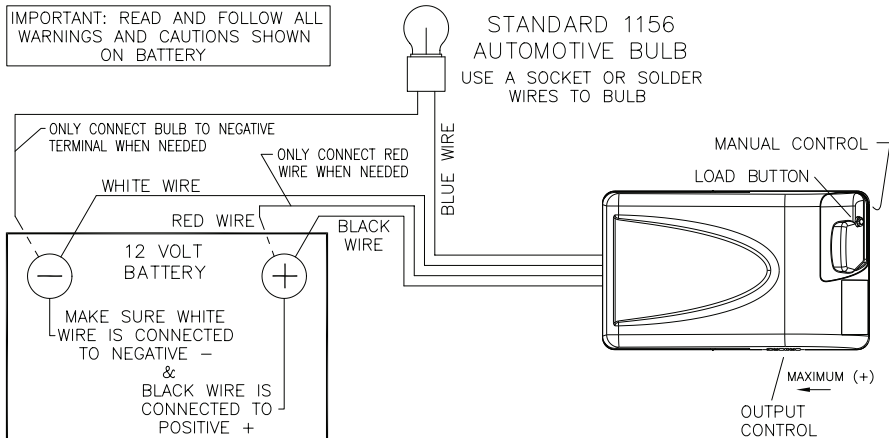

Figure 5
3. Rotate the output control thumb wheel clockwise as far as it will go. Move the brake control's manual control to the left, the display should show O.C. Connect the brake control's blue wire to the bulb's wire. See Figure 5 on page 12.